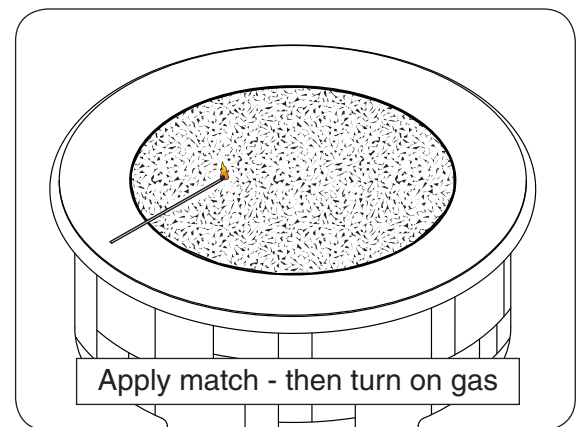

Fig. 33-1
3. Lay a lighted long-stem match on the surface of the decorative media near the burner (**do not hold the match in your hand**) or use a lighted long-necked butane lighter (Fig. 33-1).